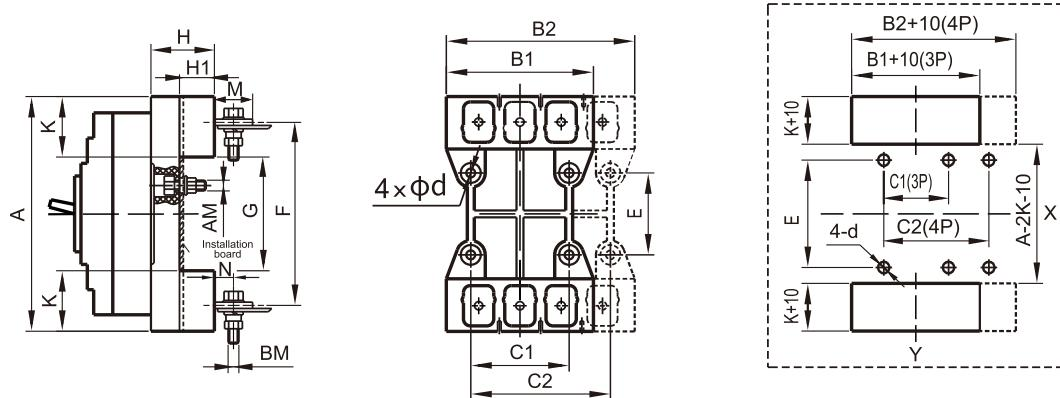
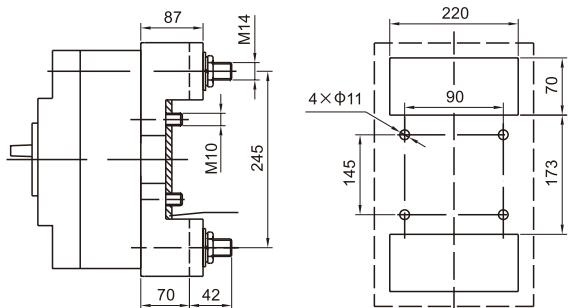

Fig10 RDM1 Plug-in type overall and installation hole-opening diagram
Fig 11 RDM1-800 3P Plug-in type overall and installation open hole diagram
6.4 RDM1 Plug-in type overall and installation hole-opening dimension, see Fig 10, Fig 11 and Table 11